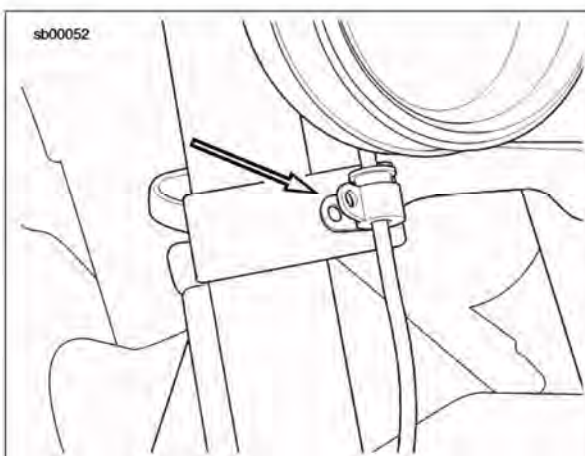

Figure 1. P-clamp Installed at 180 Degrees
3. See Figure 1. Turn the P-clamp around and install over the grommet at 180 degrees from its original position.